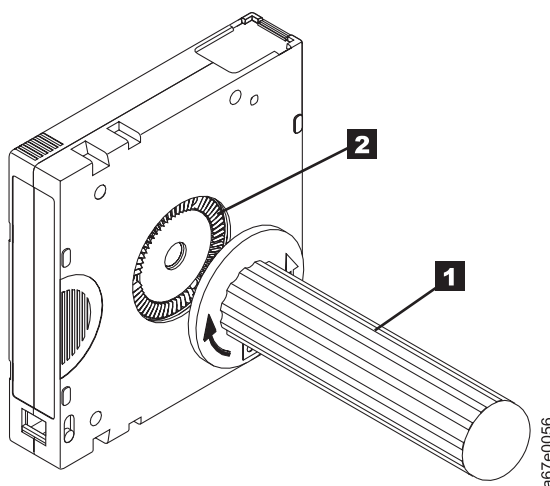

Figure 20. Rewinding the tape into the cartridge
5. To rewind the tape, insert the cartridge manual rewind tool (**1** in Figure 20) into the cartridge's hub (**2**) and turn it clockwise until the tape becomes taut.